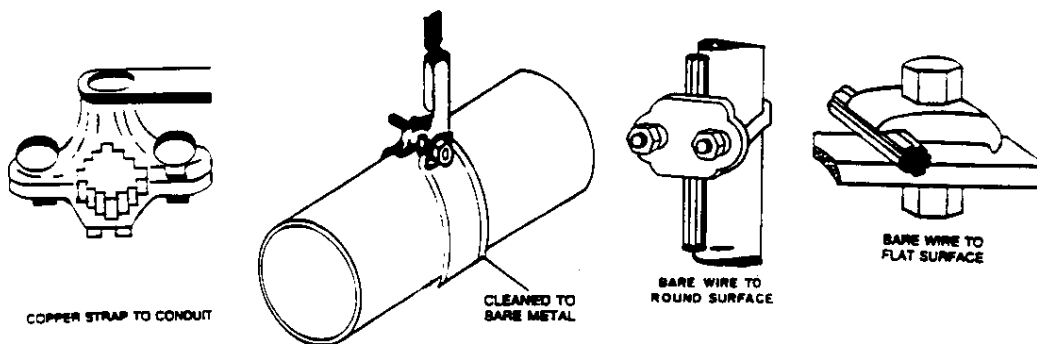

Figure 8
- (1) They are buried at least 6 feet below the earth's surface.
- (2) They do not contain gasoline or other flammable liquids or gas.
b. Connect the ground strap to the underground metal object with a straight, clean, and solid connection. Do not wrap or tie it on. Avoid sharp bends. Figure 8 illustrates some examples of good ground connections to buried objects.